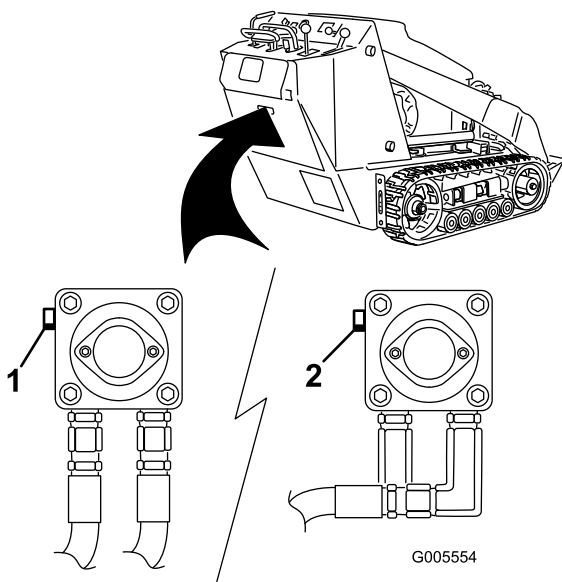

Figure 17
3. Using a wrench, turn the tow valves on the hydraulic pumps twice counter-clockwise (Figure 17).